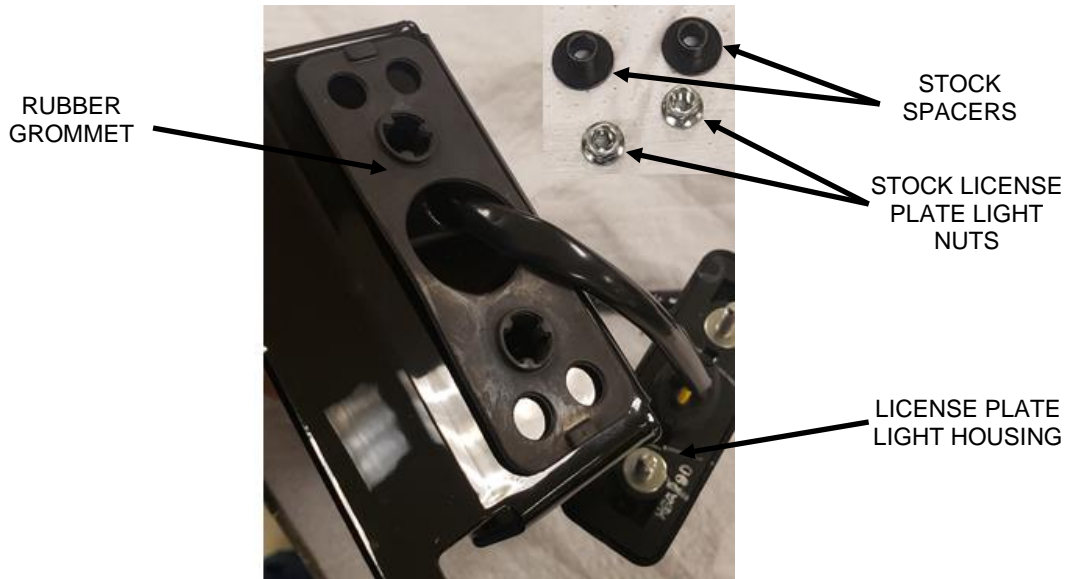

FIGURE 6
9. Feed the electrical plug and rubber boot through the large center hole in the license plate relocater and install the rubber grommet into the two smaller holes on the outside of the license plate relocater. See **Figure 6**.